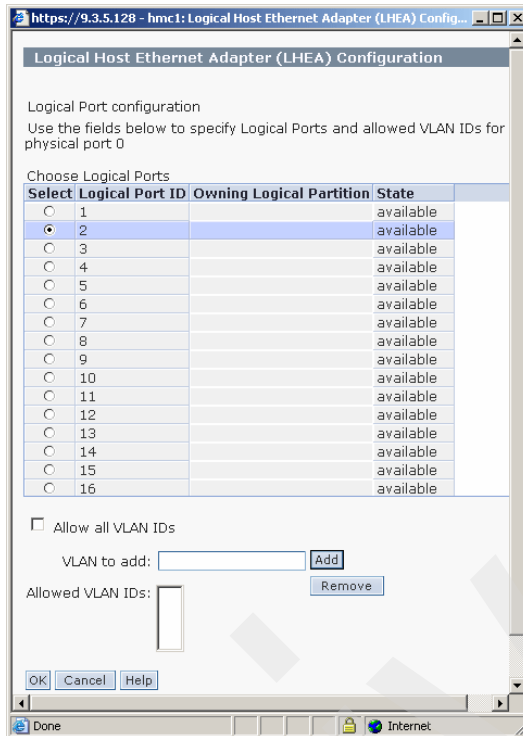

Figure 4-5 LHEA second step configuration
- ▶ In the Logical Host Ethernet Adapter Configuration window (shown in Figure 4-5 on page 52):